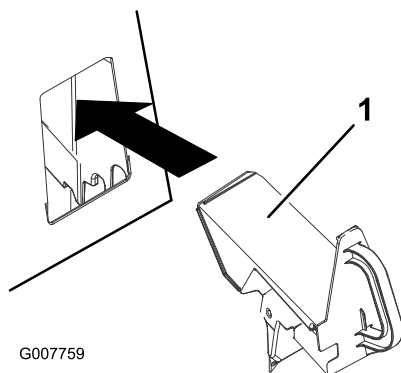

Figure 21
3. Insert the recycler plug into the opening as shown in Figure 21.